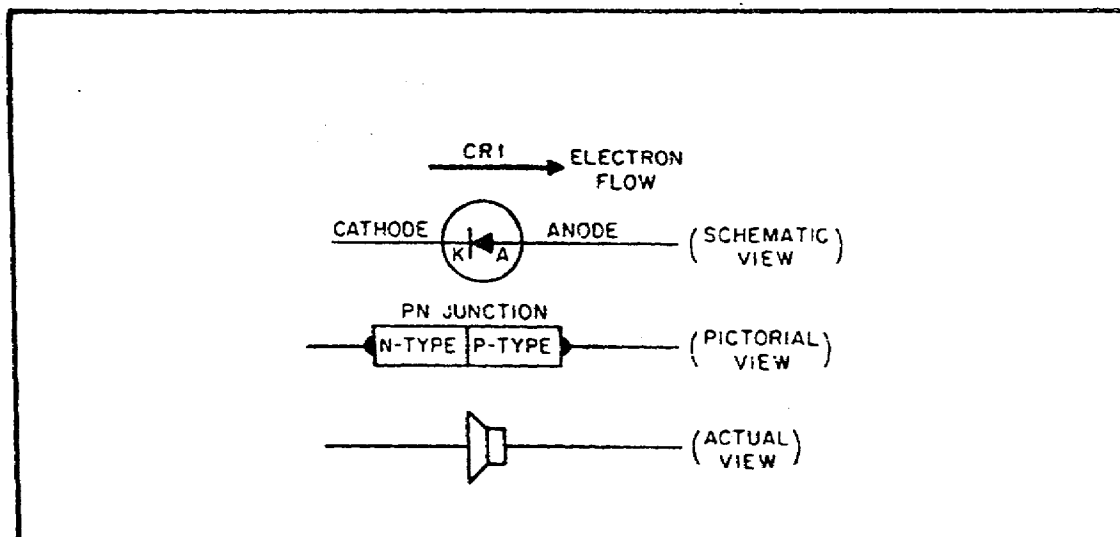

FIGURE 76. THE PN JUNCTION DIODE.
h. *Semiconductor Diode.* The semiconductor diode, also known as a PN JUNCTION DIODE, is a two-element semiconductor device that makes use of the rectifying properties of a PN junction to convert alternating current into direct current by permitting current flow in only one direction (figure 76).